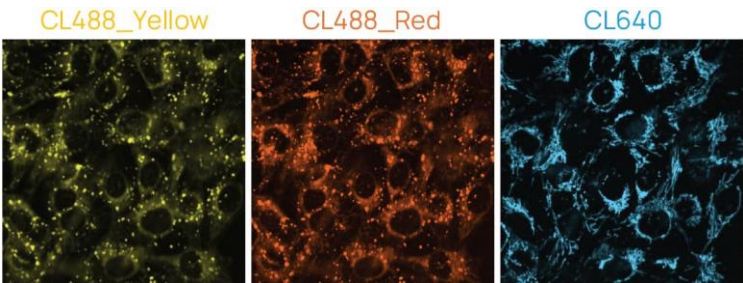

Figure 2. MCF-7 cells stained with ChromaLIVE™ Deep Red. Yellow: ChromaLIVE488_Yellow, Orange: ChromaLIVE488_Red, Cyan: ChromaLIVE640.
- Three wavelengths (Optional): While ChromaLIVE488_Yellow and ChromaLIVE488_Red look mostly similar (see **Figure 2**), they can still provide slightly different information. When feasible, acquiring both ChromaLIVE488 channels is recommended to maximize data richness. However, this approach comes with increased acquisition time and larger file sizes, which should be taken into consideration